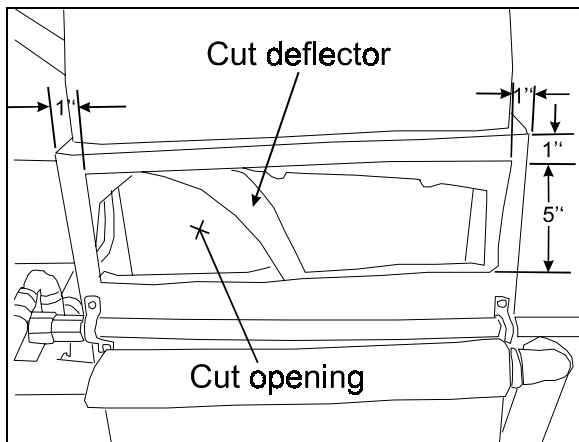

FIGURE 1
2. Keeping the 5 inch hose installation, cut the bottom part of the duct as per figure 1. Cut the deflector.